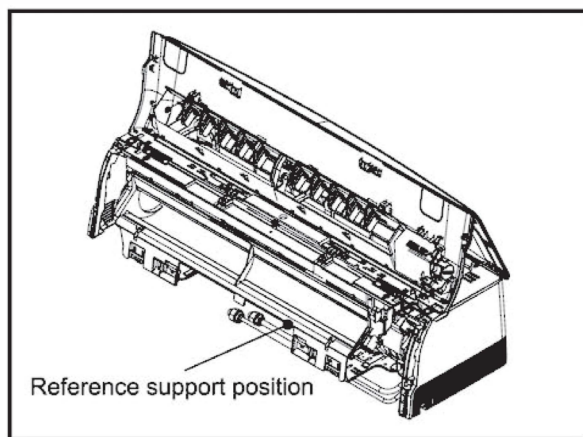
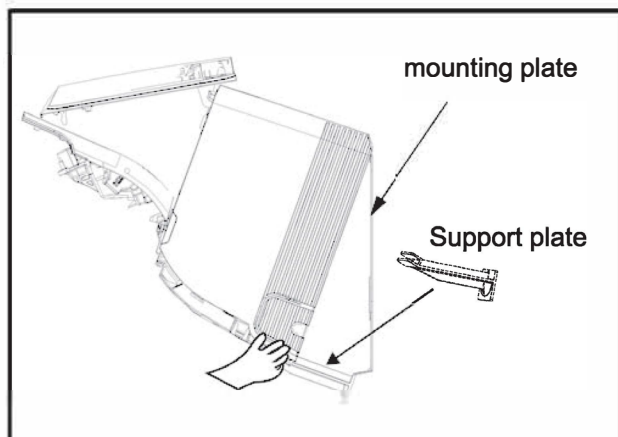

Fig. C.7.6
Fig. C.7.7
5) Use the support plate to move the unit step by step to reach the best location. (Fig. C.7.6 and Fig. C.7.7).